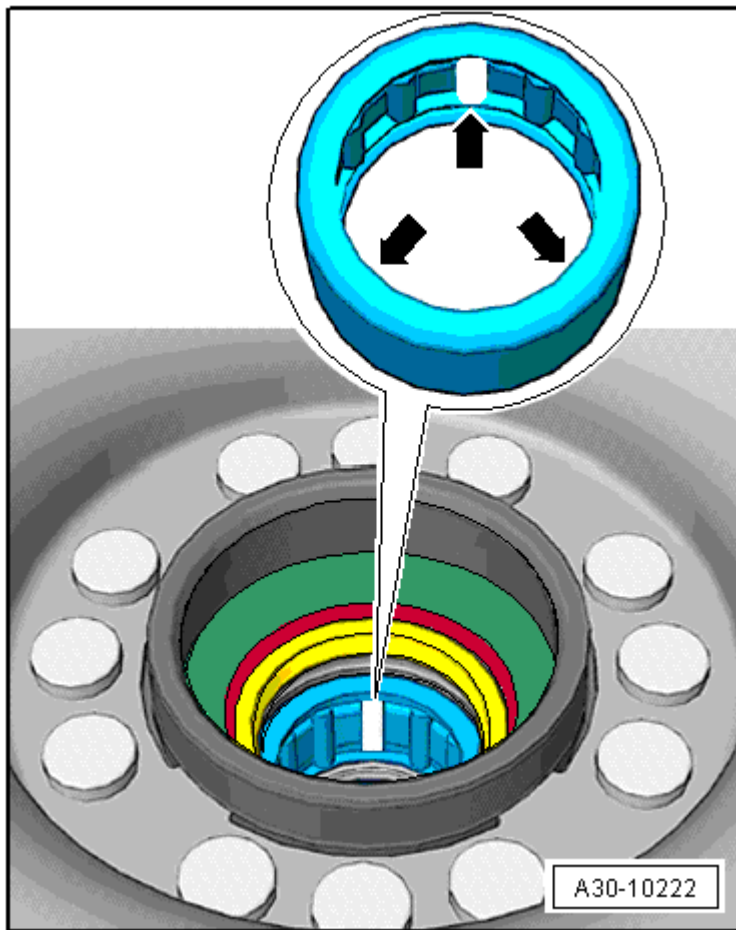

Fig. 6: Checking Needle Bearing Inside Dual Mass Flywheel
- Different versions, refer to **Fig. 6**
- Checking and replacing if necessary, refer to **Fig. 6**